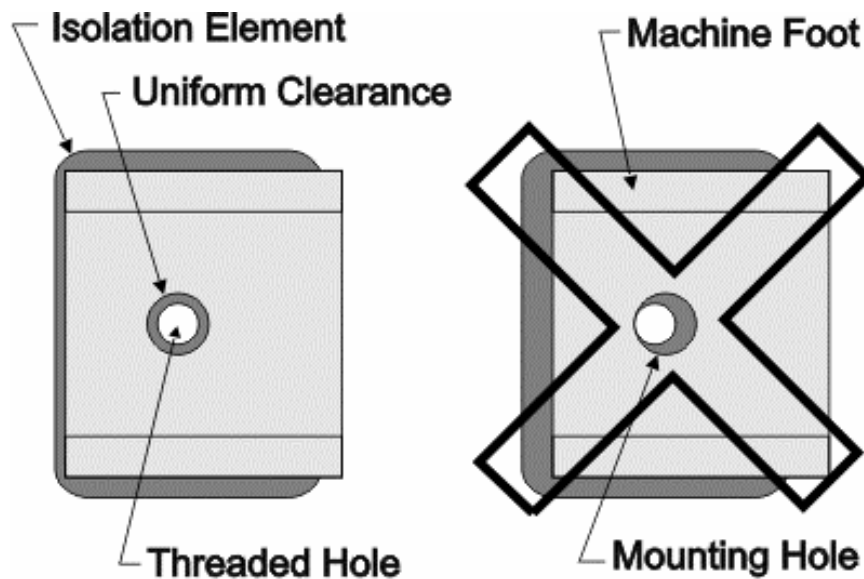

Figure 4
4. For isolation elements equipped with attachment bolts, position the isolation element under the machine foot so the tapped hole or welded nut in the isolation element is concentric with the machine's mounting hole as per Figure 4.